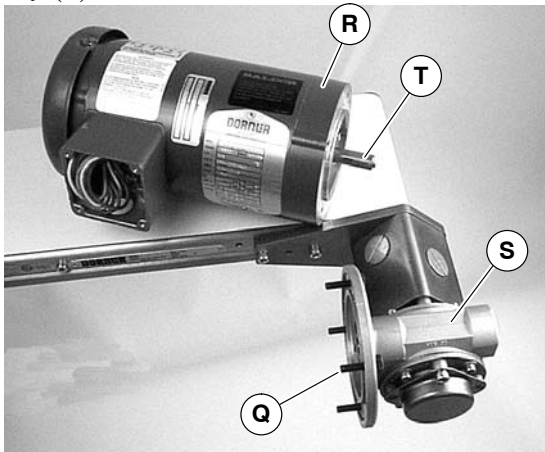

Figure 24
4. Remove four screws (Q of Figure 24). Detach motor (R) from gear reducer (S). Retain motor output shaft key (T).